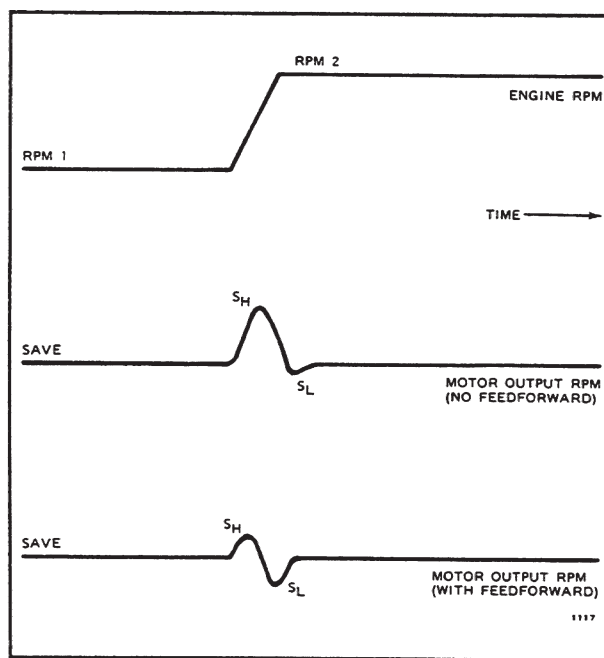

FIGURE 4. Effect of feedforward on control action. Peaks S_H and S_L have the same feedforward amplitude and are smaller than those of feedback only.
The feedforward stage is an option for those applications needing further response in their systems. See Figure 4. A second pulse pickup on the pump input shaft senses prime mover speed input changes before they are reflected at the motor output shaft. Again, either a pulse pickup or dc tachometer may be used and a low-idle threshold must be crossed before corrective action begins. Because the feedforward signal is added algebraically to the output stage, a faulty sensor or broken wire will not stop the controlling action; two potentiometers set the zero and span of feedforward action.
- h) There may be some over shooting during engine run up as shown in Figure 4. Adjust Feedforward gain for the least + or - speed changes. The adjustments of P, I, and D in